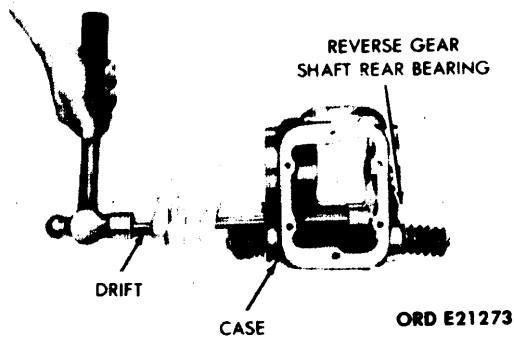

Figure 5-13. Removal of Reverse Gearshaft Rear Bearing.
Using an arbor press or a soft drift pin, remove the reverse gearshaft rear bearing from the housing. (See fig. 5-13.)
- c. Reverse gearshaft rear bearing. (See fig. 5-13.)